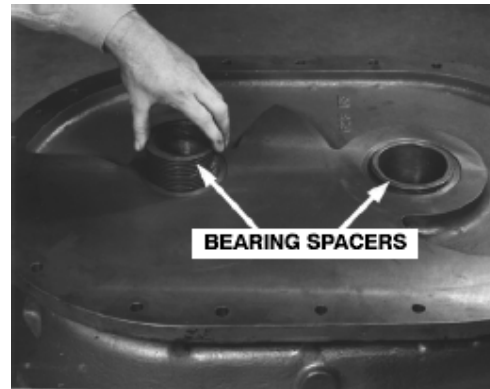

FIGURE 7-2 – BEARING SPACER
- To ease assembly in later steps, fit the bearing spacers (20, 21) to the seals (22, 23) (FIGURE 7-2, page 41). Be sure there are no burrs on the spacer O.D. and seal I.D. Spacer should be SLIP FIT in the seal. A sloppy fit will cause excess air leakage and decrease blower efficiency. Do not drive the spacer through the seal as damage to the babbitt will result. It may be necessary to polish the high spots from the seal I.D. to allow slip fit of the spacer. USE CROCUS CLOTH, not emery cloth.